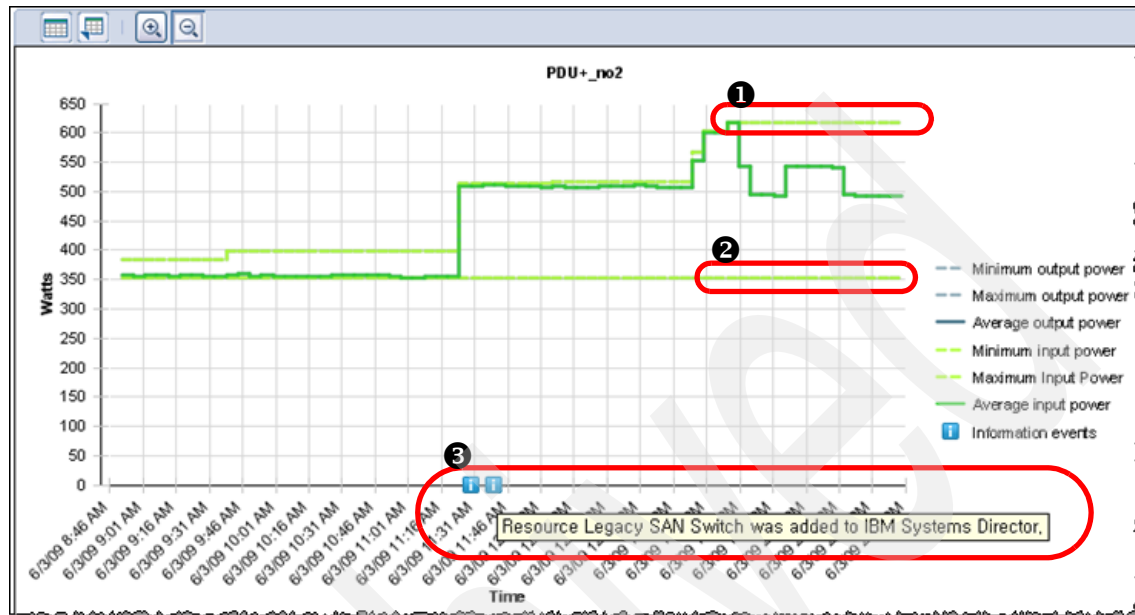

Figure 8-34 Last 6 hours power trend data of the PDU+ (rack level) monitoring
3. The power-trend information about PDU+no2 with rack-level monitoring displays, as shown in Figure 8-34 on page 396.